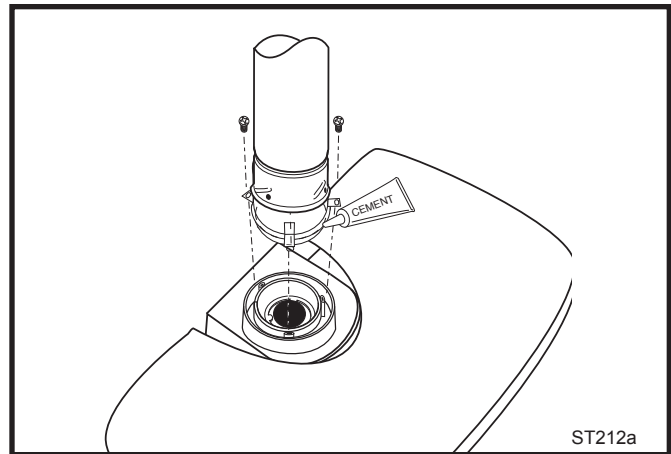

Fig. 19 Attach inner assembly to flue collar.
- Run a bead of sealant around the bottom end of the starter pipe and attach the assembly to the stove using three 1/4-20 x 3/8" Phillips screws provided in the parts bag. (Fig. 19)